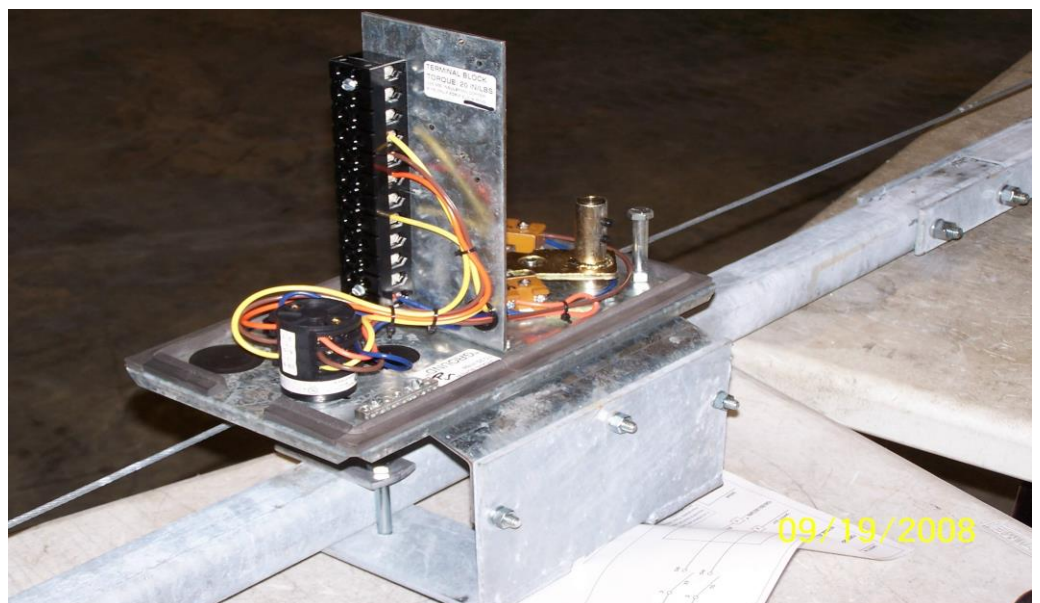

Figure 5
5. The tower box is supplied with a stiffening bracket. Install the stiffening bracket loosely to the tower box. Next, install the tower box to the mounting bracket using the (3) 1" X 5/16" bolts. After tightening the mounting bolts, finish tightening the U-Clamp bolts of the stiffening bracket. (Figure 5)